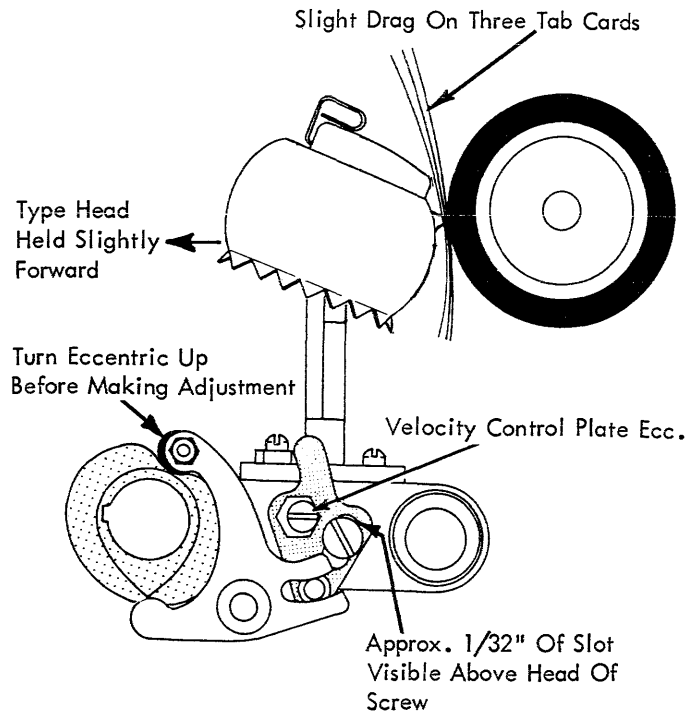

FIGURE 93. Velocity Control Plate Eccentric Adjustment
- If the velocity control plate is loose or completely out of adjustment, set the high part of the eccentric forward and tighten it in place. Adjust the plate so that about 1/32" of the adjusting slot is visible above the binding screw and tighten the screw friction tight. These settings provide a good starting point. (Fig. 93).
- Hand cycle the machine using a zero rotate, zero tilt character until the print cam follower is on the high point of the cam. Do not hold the typehead toward the platen. With the mechanism in this position, adjust the velocity control plate eccentric until a slight drag is felt on three tab cards inserted between the typehead and the platen (Fig. 93). A heavy drag should be felt on four cards. No drag should be felt on two cards. You should not be able to insert five cards.
The eccentric shouldered nut (Fig. 93) on the velocity control plate provides a means of controlling the vertical position of the velocity control plate pin relative to the rocker thereby controlling the free flight of the typehead. The elongated hole in the velocity control plate (behind the binding screw) allows the velocity control plate pin to be adjusted front or rear in the forked slot of the follower thereby controlling the amount of powered travel that the typehead will receive. Each adjustment affects the other and must be adjusted alternately until both are correct.